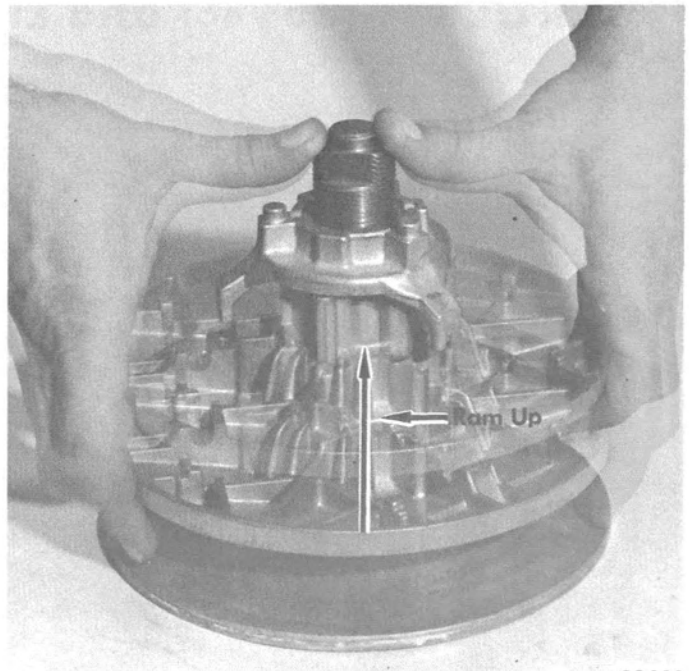

Figure 7. Removing Spider
5. Slide sliding half of drive sheave sharply against retractor to remove from hub. (Figure 7) It may be necessary to use a mallet.